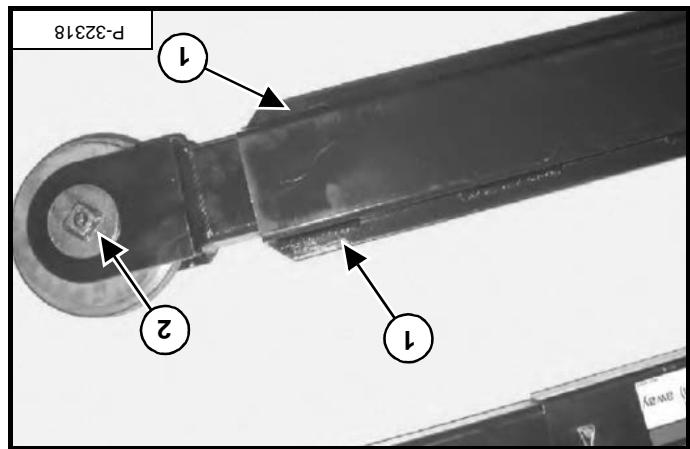

Figure OI-16
Inspect the top and bottom chain guide (item 1) [Figure OI-16] for wear and damage.